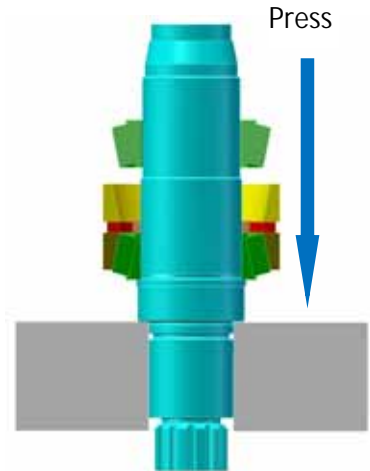

Figure 57 –Pressing Lower Bearing Assembly onto Shaft
8. Place the upper cup on top of the spacer, Figure 57.
9. Lubricate the shaft for the remaining upper cone and roller assembly with oil or grease. Slip it over the shaft with the roller radius facing up. Press it onto the shaft and into the cup, Figure 57.